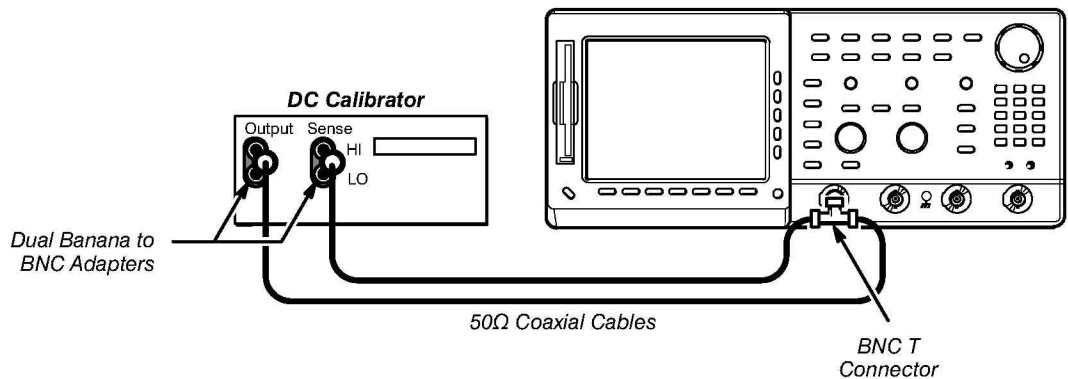

Figure 4-5: Initial Test Hookup
- Connect the output of a DC calibration generator through a dual-banana connector followed by a 50 Ω precision coaxial cable to one side of a BNC T connector. See Figure 4-5.
- Connect the Sense output of the generator through a second dual-banana connector followed by a 50 Ω precision coaxial cable to the other side of the BNC T connector. Now connect the BNC T connector to **CH 1**. See Figure 4-5.